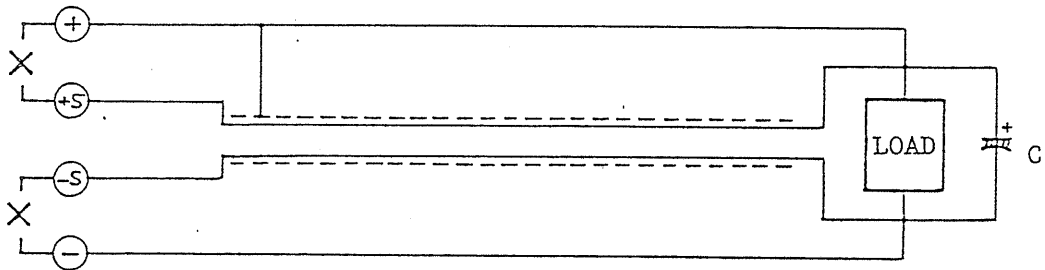

Figure 4-1
2. If the load connection cable is longer than 3 - 5 meters, phase shift caused by inductance and capacitance of the cable wires becomes noticeable and the circuit may oscillate. In such a case, connect an electrolytic capacitor of several thousand microfarads in parallel with the load as shown in Figure 4-1.